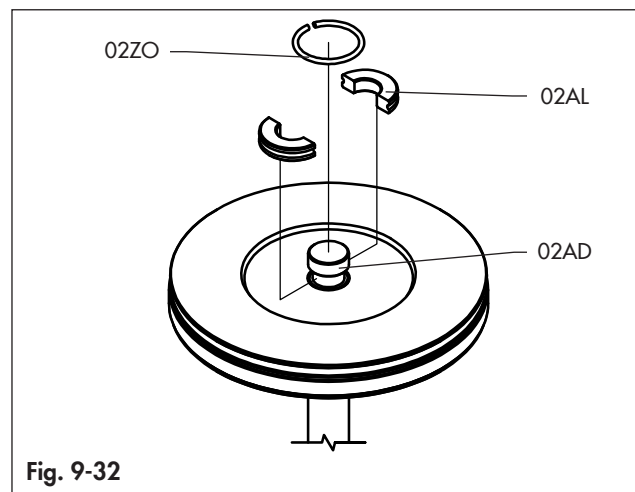

Fig. 9-32
- Place the sectors (02AL) in the related housings and fix them in position with the spring clip (02ZO) with a proper plier. (Fig. 9-32).